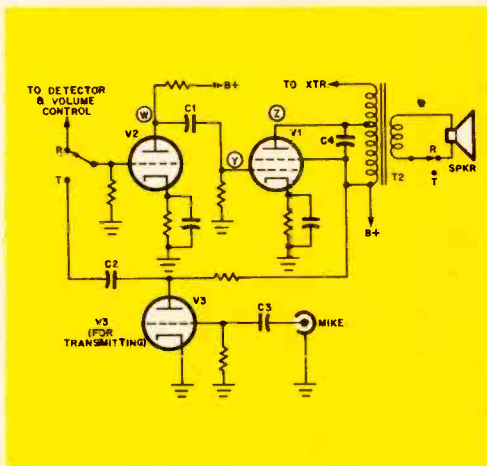

Fig. 3. Typical audio stage. With T-R switch on receive, mike preamp (V3) is out of the circuit.
audio signal source. (Even an FM tuner will serve.) With the transceiver off, connect the signal source's ground lead to the transceiver chassis. Connect the hot lead through a .05 mf, 600-volt capacitor to the plate (Z) of audio output tube V1, Fig. 3. A signal, although weak, should be heard in the speaker. Silence indicates a defective output transformer (T2), speaker or C4.